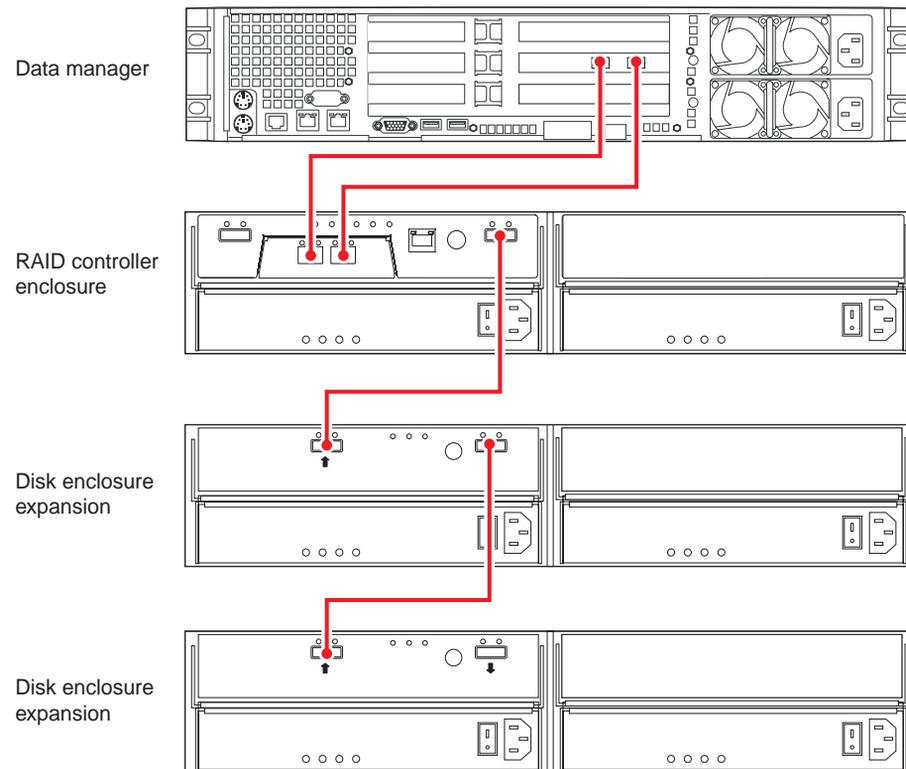

Figure 1-13 Data Manager, Single-Controller RAID Enclosure and Two Disk Expansion Units
Use the following steps and Figure 1-13 to cable a data manager to a single-controller SATA RAID enclosure and two disk expansion enclosures.
1. Connect the Data Manager's Fibre Channel PCI card port A to the RAID controller's host 1 port in the controller enclosure, see Figure 1-13.